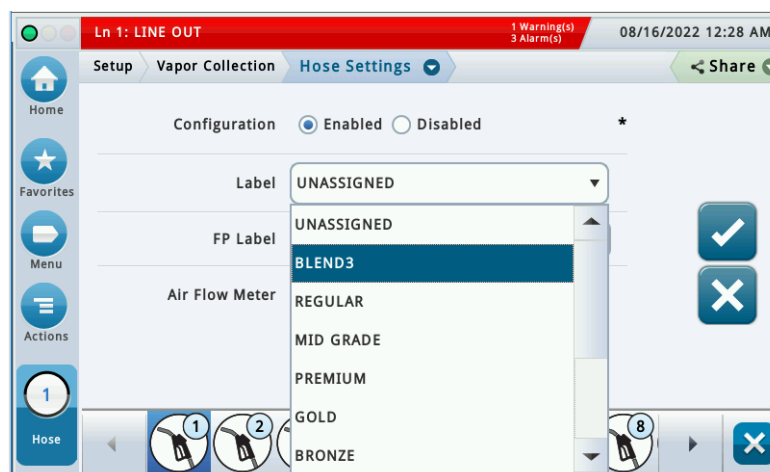

Figure 17. Vapor Collection Hose Settings Setup
3. Touch the drop-down arrow in the Label field and select the Hose Label from the list (see Figure 17).